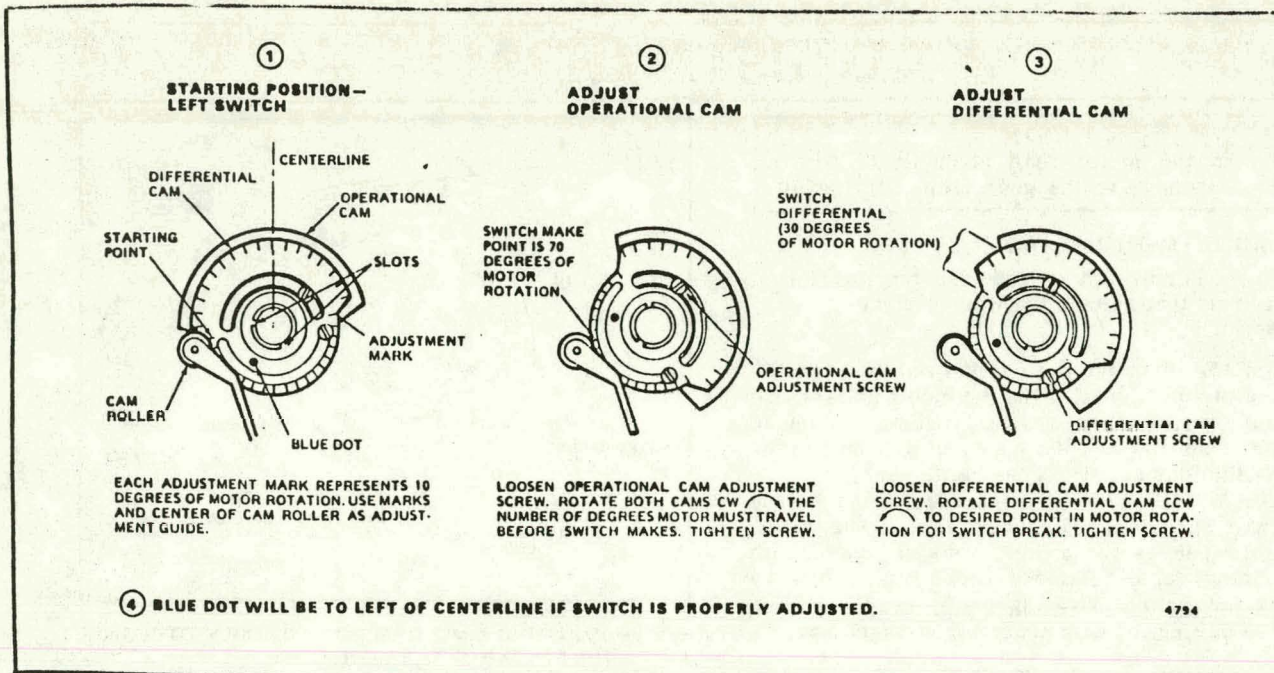

FIG. 9--ADJUSTING LEFT SWITCH MAKE AND BREAK POINTS.
5. Adjust left switch (inner cam) first. See Fig. 9.